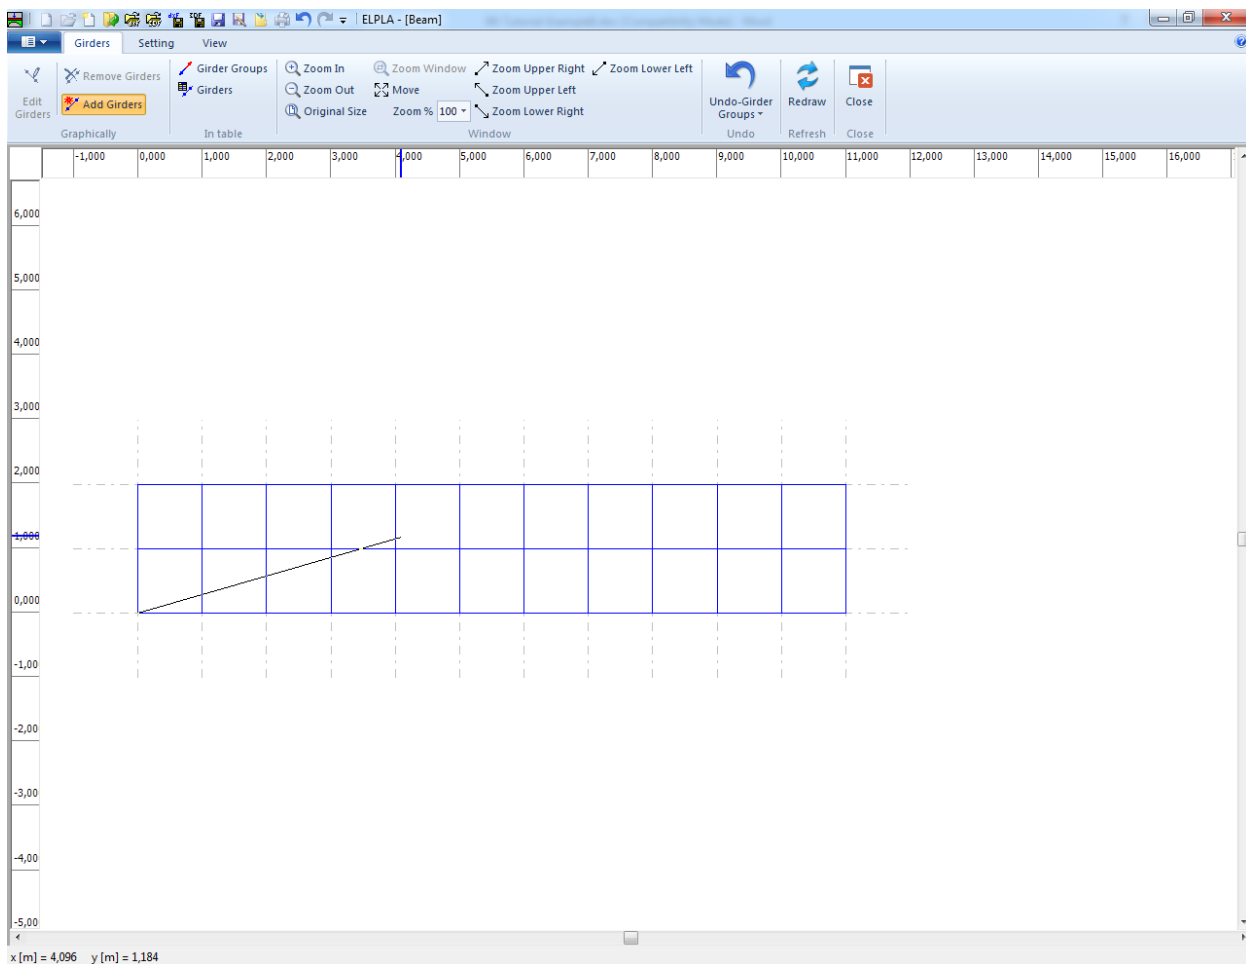
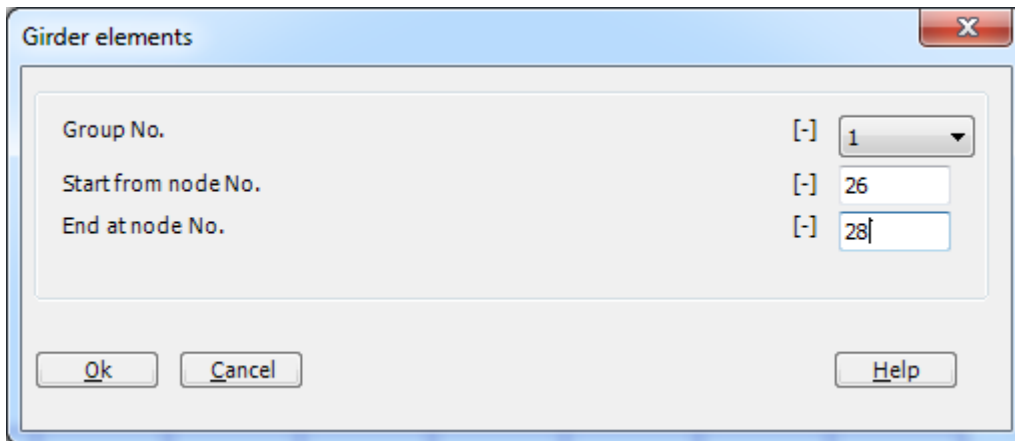

Figure 8.14 Add girder by mouse
Figure 8.15 "Girder elements" dialog box
- Choose "Add Girders" command from the "Graphically" menu in Figure 8.14.
- Click the left mouse button on the start node of the first girder and drag the mouse until the end node of that girder (Figure 8.14). Then, click on the end node. The "Girder elements" dialog box in Figure 8.15 appears